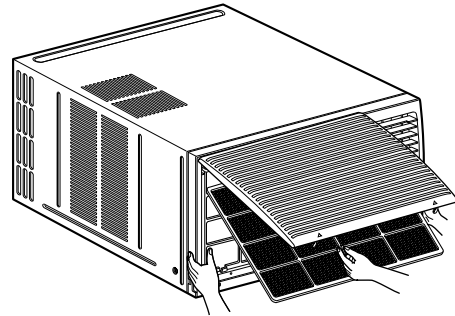

Figure 1
4. Remove the front grille. (See figure 1)